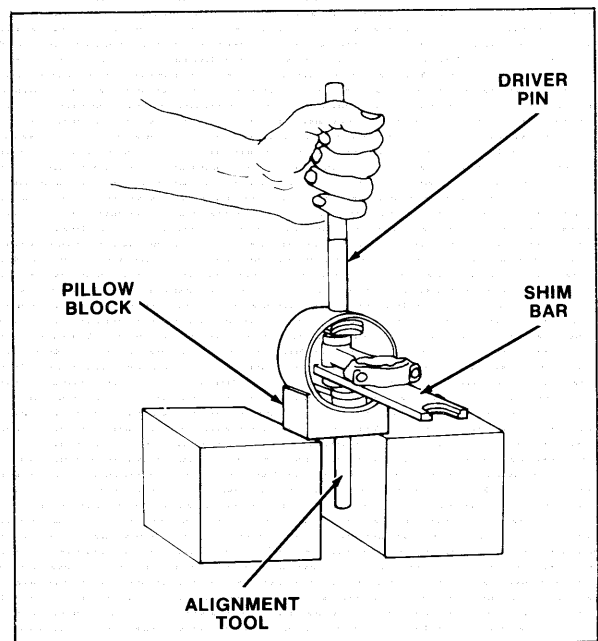

Figure 15—Piston With Components and Tools
- G. Install shim bar with end marked "310" between large diameter end of first spacer and connecting rod. See figure 15.